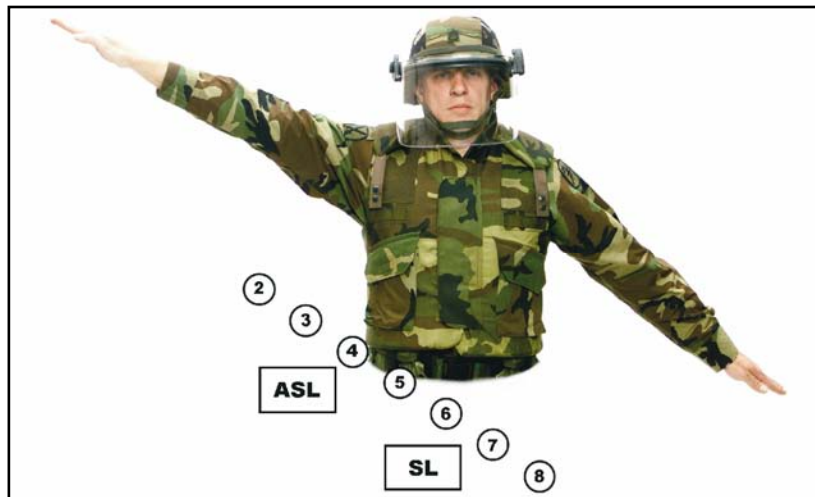

Figure 191-376-4122-5. Hand signal for a squad echelon-right formation
5. Form the squad echelon-right formation using hand signals, as shown in figure 191-376-4122-5. Assume the safe-port position when the command of "Squad echelon right" is given, or when the squad leader gives the hand signal for an echelon-right formation.